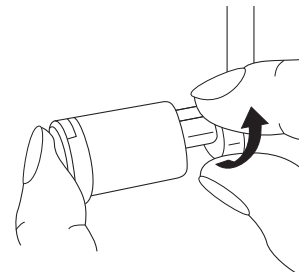

Fig. 100
2. Adjust the upper blade 18 into the rest position (Fig. 100).